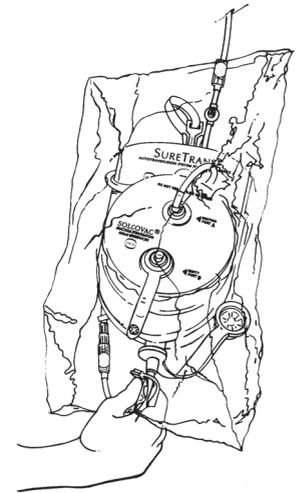

Figure 2, Closing the pinch clamp.
- Close the pinch clamp located below the collection container on the 6 ft. transfer tube connected to the blood transfer bag to prevent blood from leaving the collection container prior to transfer for transfusion (Figure 2).